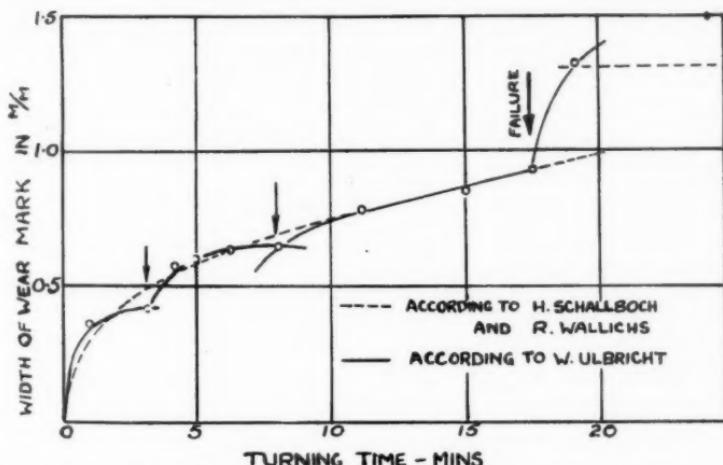

Fig. 29. Relationship between Width of Wear Mark and Turning Time.
This hypothesis may be connected with the evidence of Ulbricht³⁵ that the relationship between the width of the wear marks (B) of a turning tool and turning time (T) is a cascade as shown in Fig. 29 and not a continuous parabola as previously considered, since cutting speed, tool wear and the coefficient of friction are intimately connected with the action of the swarf passing over the face of the cutting tool.